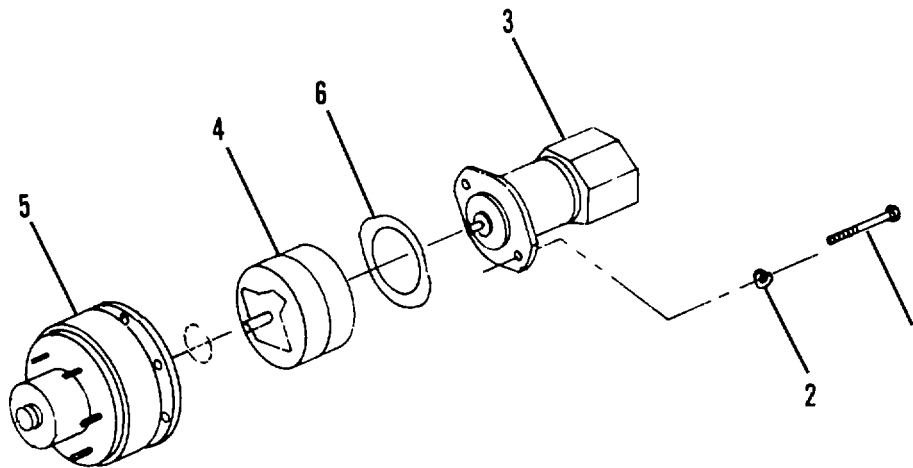

Figure 4-9. Hydraulic Motor Removal.
(1) Disassembly:
- (b) Remove two capscrews (1, Figure 4-9) and washers (2) securing motor (3) to brake (4) and drive hub (5). Tap lightly with a mallet to break loose and separate.
- (c) Remove gasket (6) and discard.